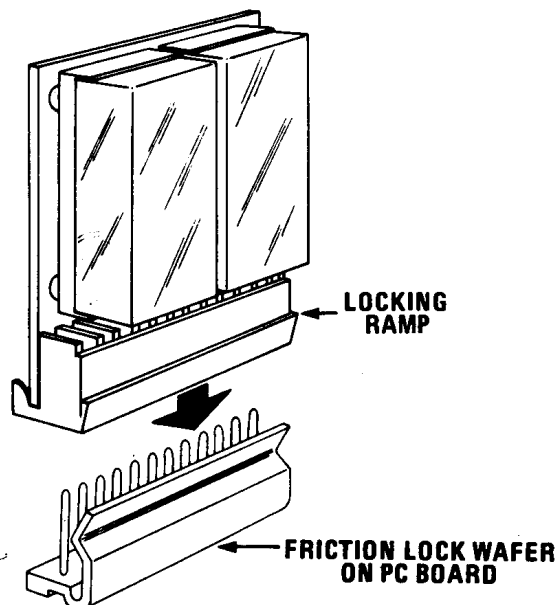

Figure 7-11 INSTALLING PLUG-IN MODULE
4. With the other hand, grasp the plug-in module by the outer edges of its PC board and line up the holes in the plug-in module socket with the pins on the PC board assembly, making sure that the locking ramp on the module faces the friction lock on the PC board assembly (see Figure 7-11 shown below). After lining up the holes, press the plug-in module down until it snaps into place.